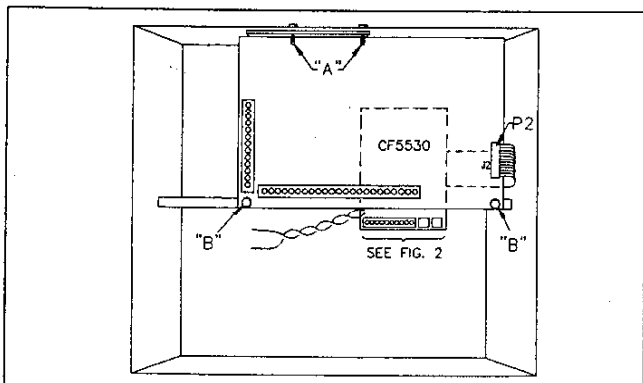

Fig 1. Location of CF5530 within H11516 enclosure.
1. Remove the motherboard from the enclosure by removing the two screws that secure the heat sink to the top of the enclosure ("A" in Fig. 1) and the two screws at the bottom of the board that secure it to the cross rail ("B" in Fig. 1).